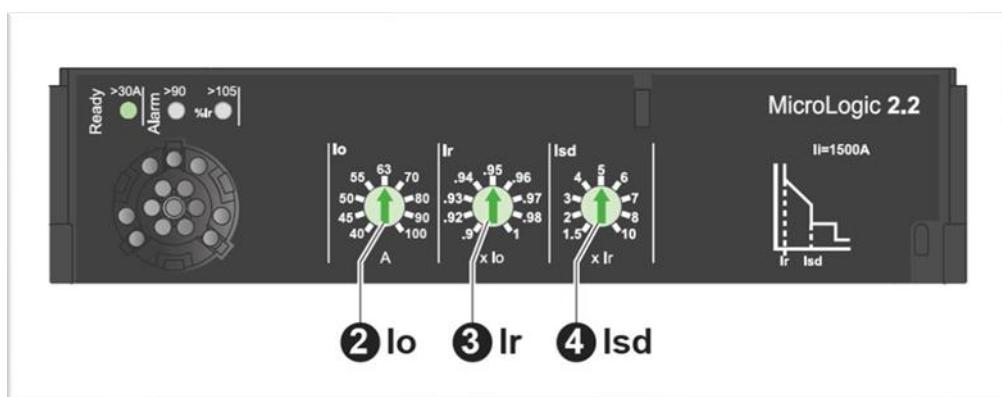

Figure 5. Schneider Micrologic 2.2, Vigi 4.2 and 5.2E Trip Units – Current Settings
6.3 For Schneider Micrologic 2.2, Vigi 4.2 and 5.2E Electronic, the adjustments for current settings are shown in Figure 5.